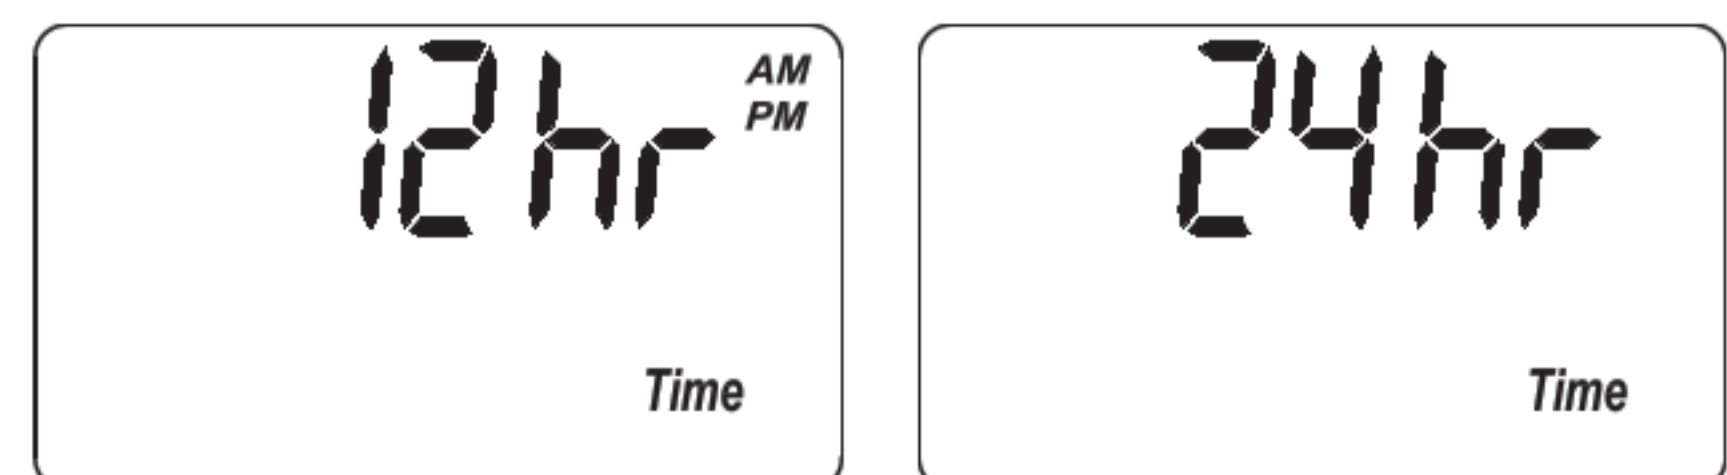

FIG. 41
1. Press and hold the PROGRAM button until the screen in Figure 37 is displayed. Once in this display, press the PROGRAM button five times and one of the two displays in Figure 41 is shown.